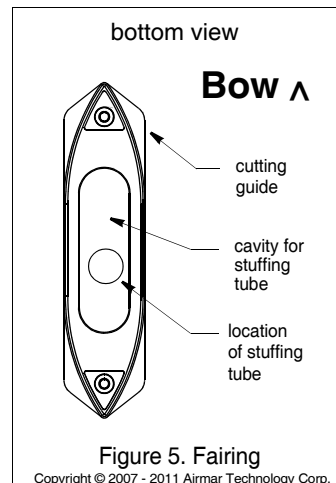

Figure 5. Fairing
6. Check the fit by placing the fairing against the hull. **Be sure the fairing is parallel to the centerline of the boat (keel),** and the stuffing tube is about 2/3 of the way back in the cavity (see Figure 5). Hold the fairing on the ends and try to rock it back and forth. Shape the fairing to the hull as precisely as possible with a rasp or power tool until it no longer rocks.